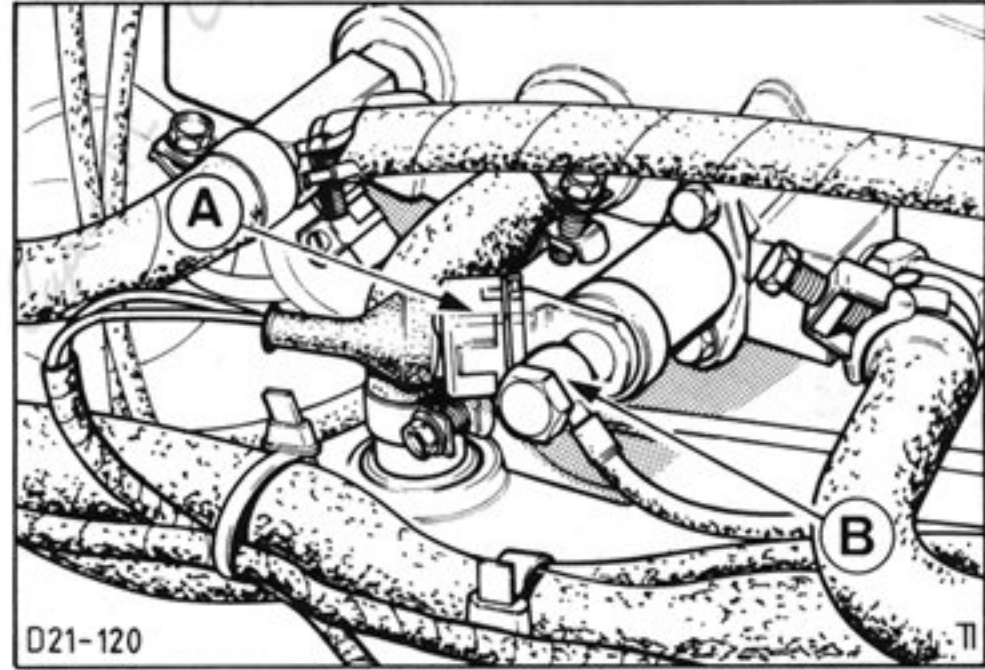

Fig.83. Installation position of start valve.
7. Disconnect fuel line from cold-starting valve, Fig.83 and connecting hose from intake silencer.